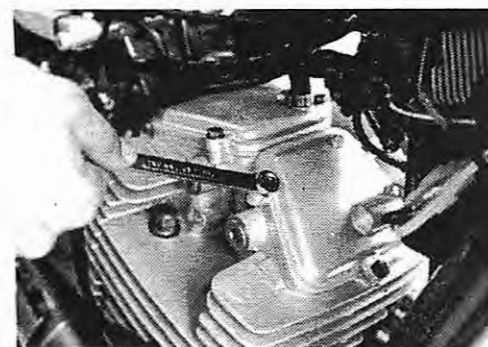

Figure 4.9
5. Remove the six 10 mm hex head bolts retaining the valve covers. Remove the valve covers. (Figure 4.9)